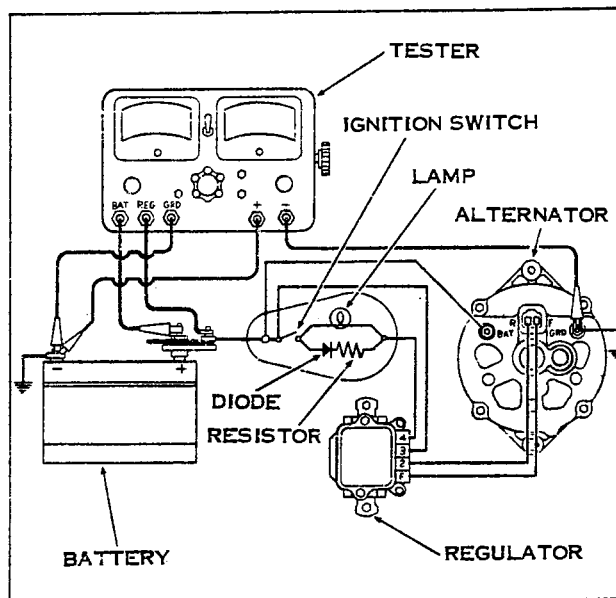

Figure 5.
D. GROUND (NEGATIVE) CIRCUIT RESISTANCE TEST (See Figure 5)
1. Following same procedure as in previous test (C) except move Negative voltmeter lead to alternator ground "GRD" terminal and move Positive voltmeter lead to the Negative battery post.